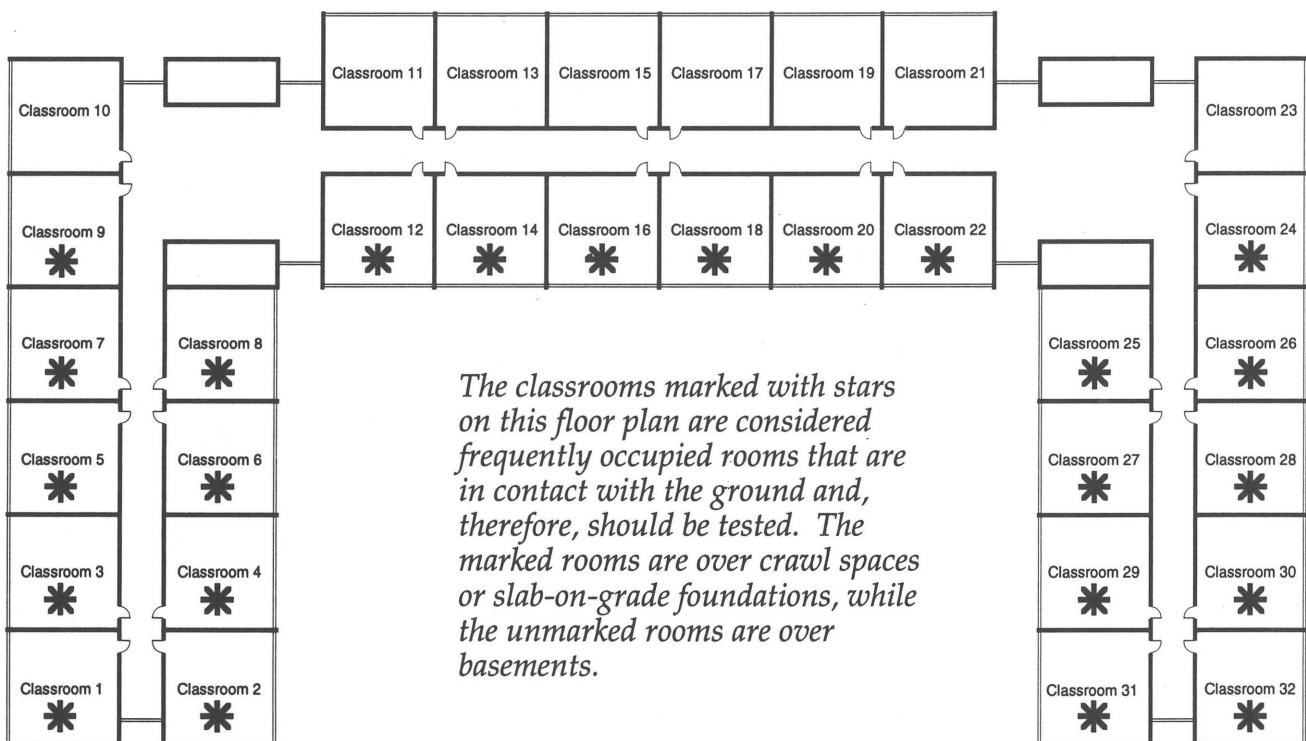

Figure 5-1: Floor plan of school.
1. Mark which rooms on the floor plan in Figure 5-1 will have duplicate measurements. The classrooms marked with stars on this floor plan are considered frequently occupied rooms that are in contact with the ground and, therefore, should be tested. (*Suggestion: Make a duplicate measurement for every ten measurement locations—i.e., 10% of all testing locations. If you have extra rooms after assigning duplicate detectors at a rate of one per 10 measurement locations, add one additional duplicate detector.*)
2. For Figure 5-1, randomly assign (but do not place) blank devices to rooms that are frequently occupied and in contact with the ground (rooms with stars) that do not contain duplicate measurements. **Remember that you do not use these devices to test any room. However, you do remove them from their packaging and then immediately reseal them to give them the appearance they have been used.** How many blank devices are required for the school in Figure 5-1? (*Suggestion: Assign a blank measurement for every twenty measurement locations. If you have extra rooms remaining after assigning blank detectors at a rate of one per 20 rooms, add one additional blank detector.*)
2. For Figure 5-1, randomly assign (but do not place) blank devices to rooms that are frequently occupied and in contact with the ground (rooms with stars) that do not contain duplicate measurements. Remember that you do not use these devices to test any room. However, you do remove them from their packaging and then immediately reseal them to give them the appearance they have been used. How many blank devices are required for the school in Figure 5-1? (*Suggestion: Assign a blank measurement for every twenty measurement locations. If you have extra rooms remaining after assigning blank detectors at a rate of one per 20 rooms, add one additional blank detector.*)
SCHOOL: \_\_\_\_\_ Figure 5-1 \_\_\_\_\_